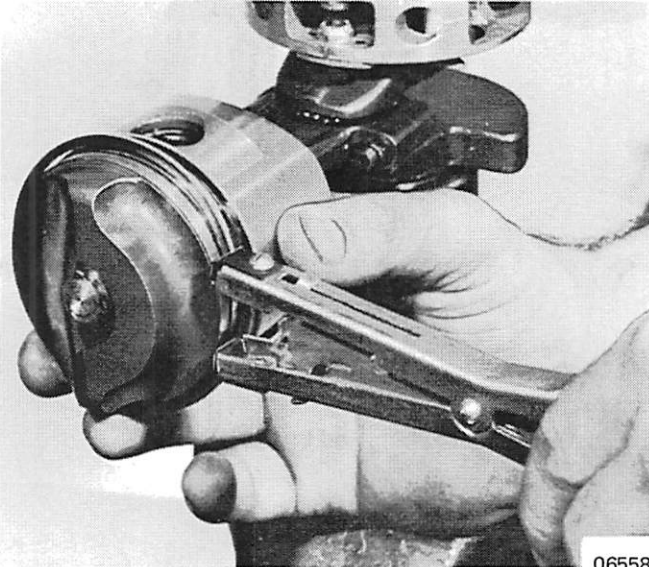

Figure 1. Removing Piston Rings
1. Remove piston rings from pistons with Piston Ring Expander (C-91-24697). (Figure 1)